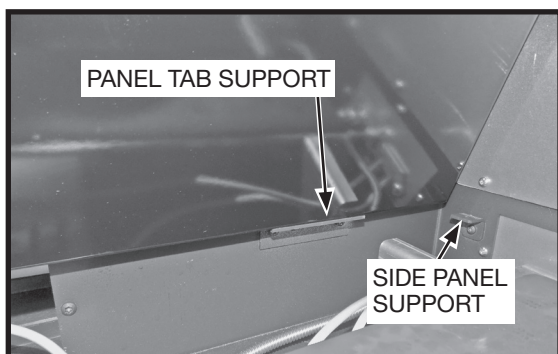
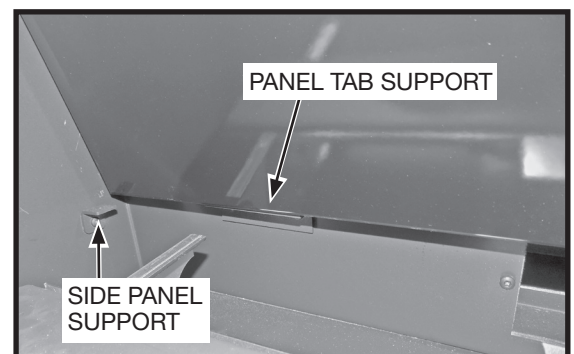

Figure 54: Rear panel - right side.
Figure 55: Rear panel - left side.
3. Insert the back panel with its' tabs pointing downward, into the firebox and position the panel tabs into the tab supports for both the right side and the left side (Figure 54 and Figure 55).